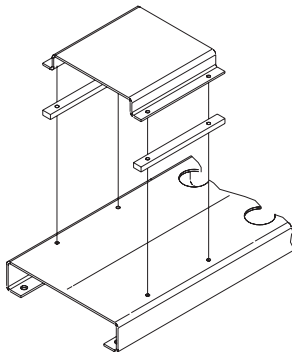

Figure 9 — Aligning Pedestal and Pedestal Mounting Bars to Baseplate
1. Use same procedures as stated in the preceding sections to layout and drill the pedestal mounting hole positions on the baseplate and the motor mounting hole positions on the pedestal. Before completion of step 5 align the pedestal mounting bar holes to mounting holes in the baseplate. Reference Figure 9.